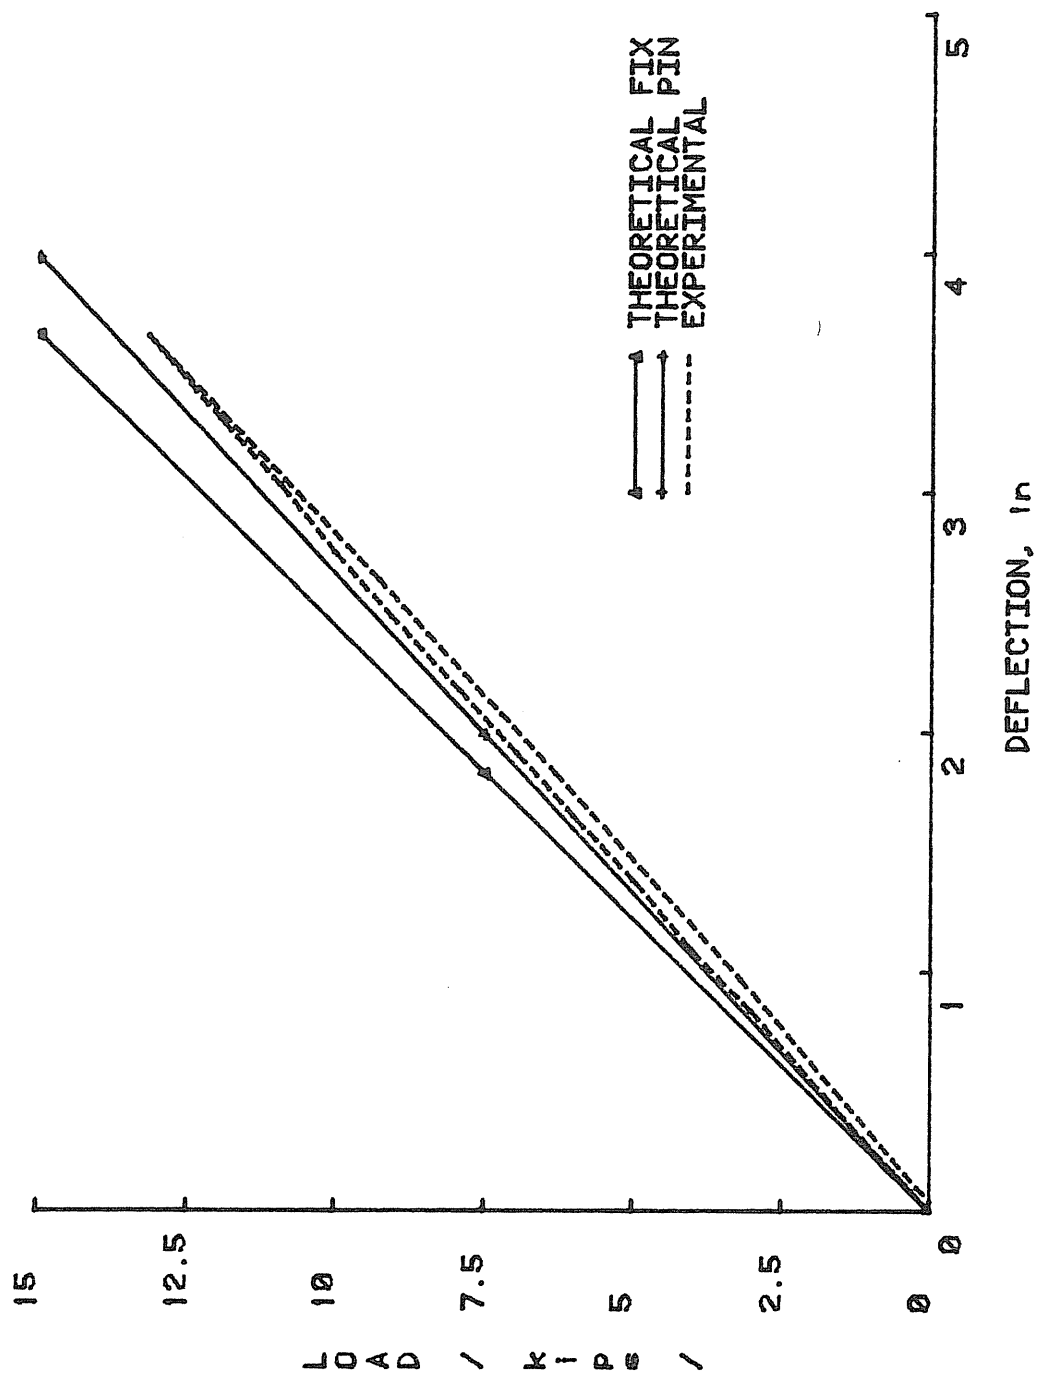

FIGURE B.2 LOAD VS. CENTERLINE DEFLECTION, TEST PBP2
- Figures B.2 to B.4 show that centerline deflection was close to the pinned base theoretical curve while both quarterpoint deflections were slightly greater than predicted.